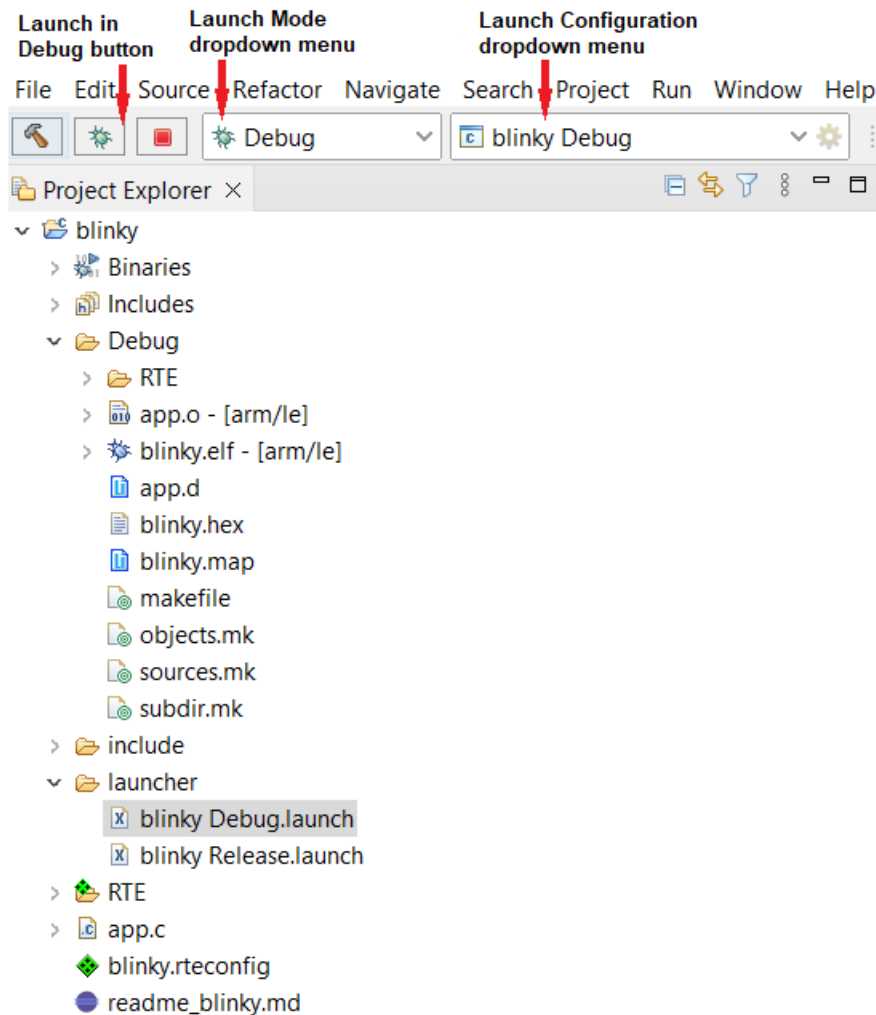

Figure 12. Launching a Debug Session
1. From the **Launch Configuration** dropdown menu, select **blinky Debug**. From the **Launch Mode** dropdown menu, select **Debug**. Both are shown in the "Launching a Debug Session" figure (Figure 12)).
2. Press the **Launch in Debug** button (also shown in the "Launching a Debug Session" figure (Figure 12)) to launch the debug session. J-Link downloads the *blinky* sample code to RSL15's flash memory.